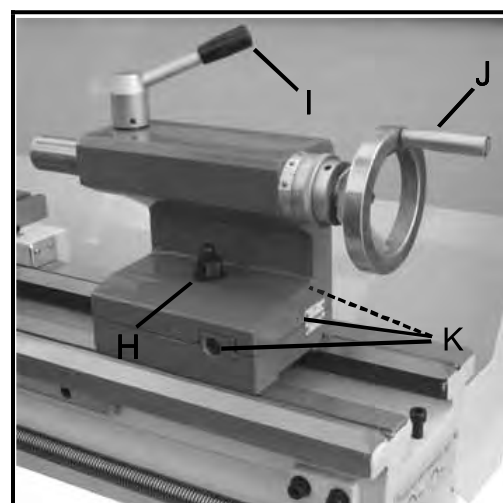

Fig. 16
16. Tailstock Clamping Screw (H, Fig. 16)
17. Tailstock Quill Clamping Lever (I, Fig. 16)
18. Tailstock Quill Traverse Handwheel (J, Fig. 16)
19. Tailstock Off-set Adjustment (K, Fig. 16)